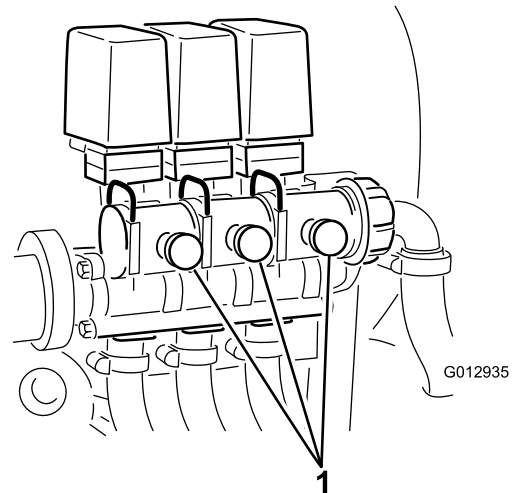

Figure 43
12. Adjust the boom bypass valve (Figure 43) on the boom control valve for the boom you turned off until the pressure reading on the gauge is the same as it was in step 9.